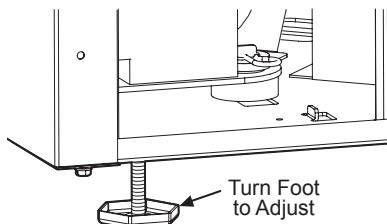

Figure 11
- 2 If the ice maker is not level, adjust the feet on the corners of the unit as necessary (Figure 11).